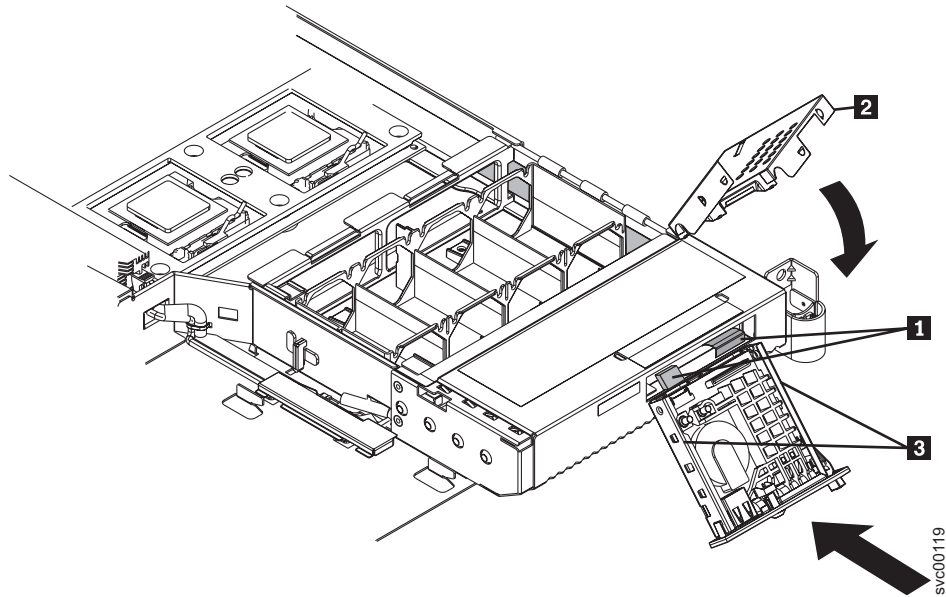

Figure 68. Replacing the operator information panel
1. Plug in the two cables on the rear of the assembly **1**. See Figure 68 on page 236.